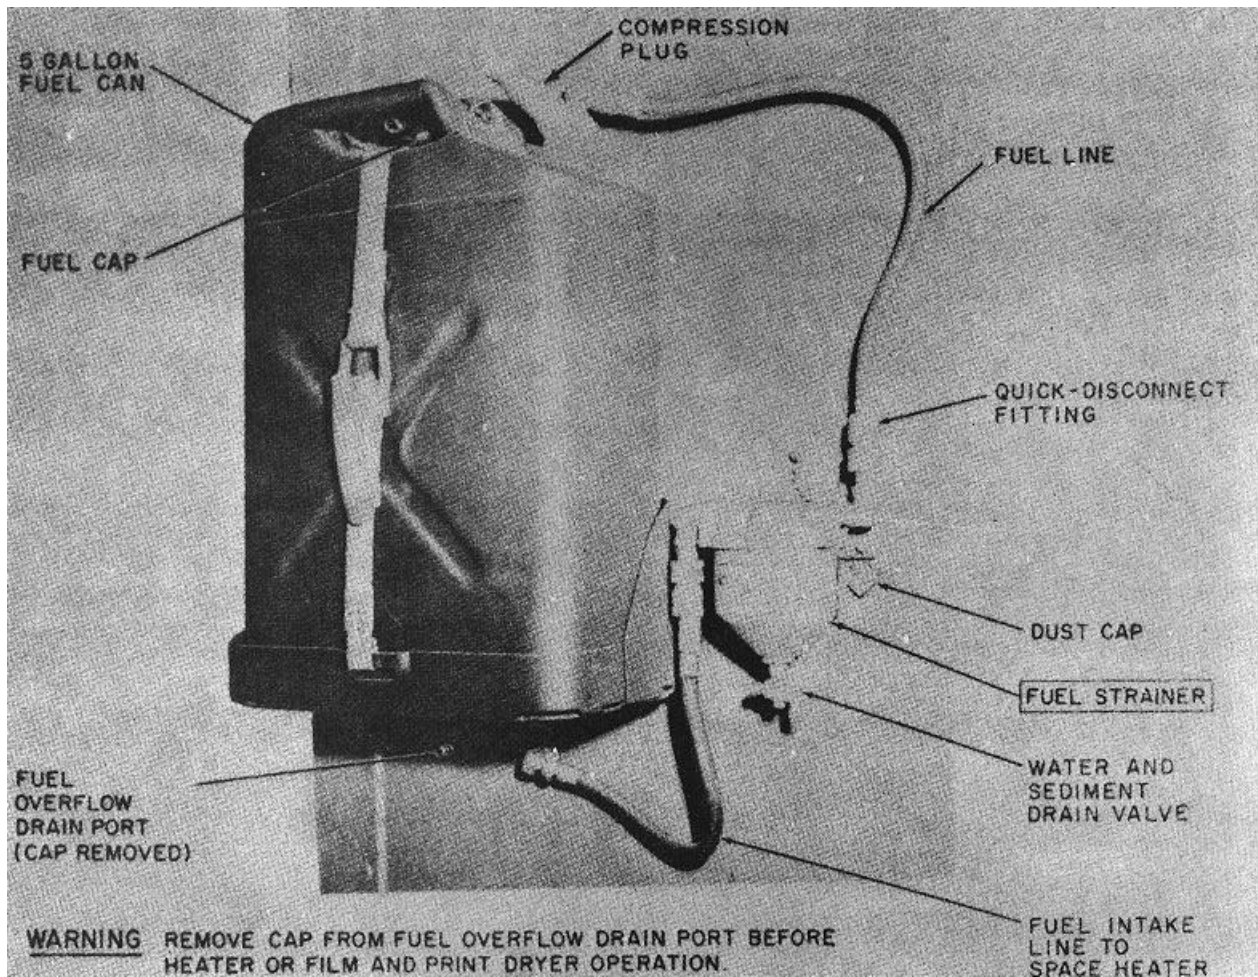

Figure 1-13. 5-gallon fuel supply installation.
*i. Fuel Supply Installation.* A 5-gallon can and fuel strainer are mounted rear roadside as shown in figure 1-13.
- d.* Remove the cover from the 5-gallon fuel can and dust cap from fuel strainer (fig. 1-13).